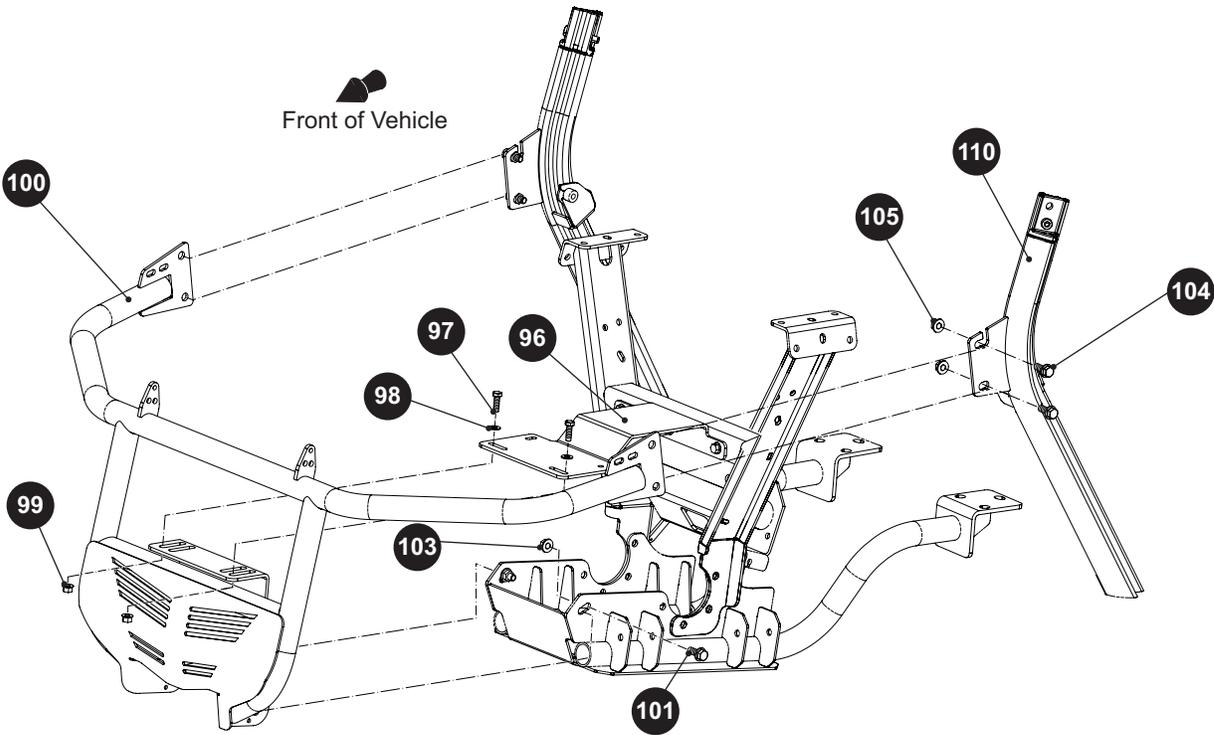

Fig. 12 Brush Guard Removal
1. Remove the bolts (97), flat washers (98), and lock nuts (99) to release the winch plate (96) from the brush guard (100) (Ref. Fig. 12).
2. Remove the bolts (101) and lock nuts (103) from the brush guard (100).
3. Remove the bolts (104) and lock nuts (105) to remove the brush guard (100) from the vehicle.